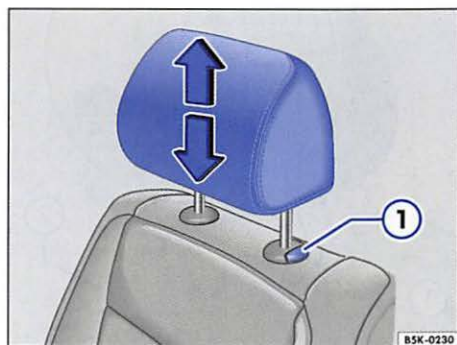
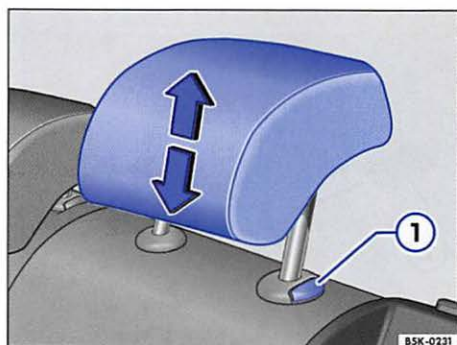

Fig. 35 Adjusting the front head restraints.
Fig. 36 Adjusting the rear head restraints.
- Push the head restraint up in the direction of the arrow or down when the button  fig. 35 ① or  fig. 36 ① is pressed .